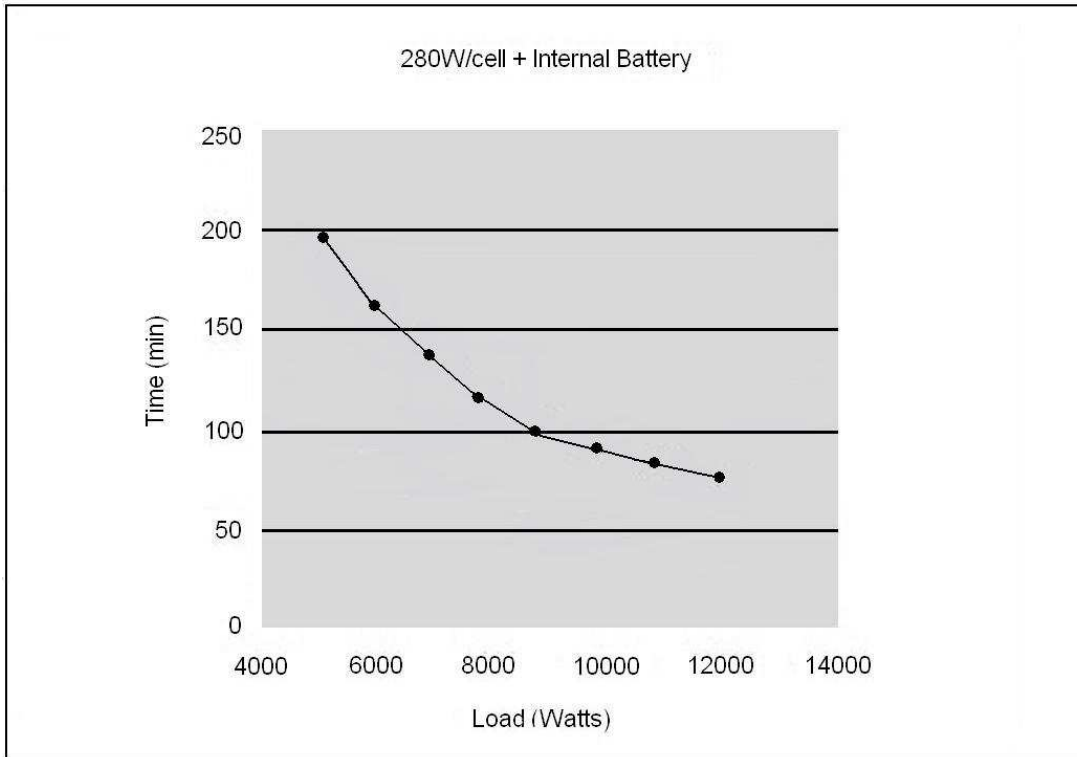

Figure 17. Average Discharge Times (in Minutes) with a Wye Connected, Constant Power, and Linear Load
* Average discharge times are shown in Figure 17.